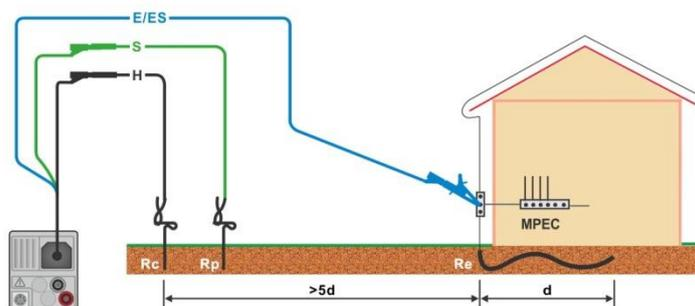
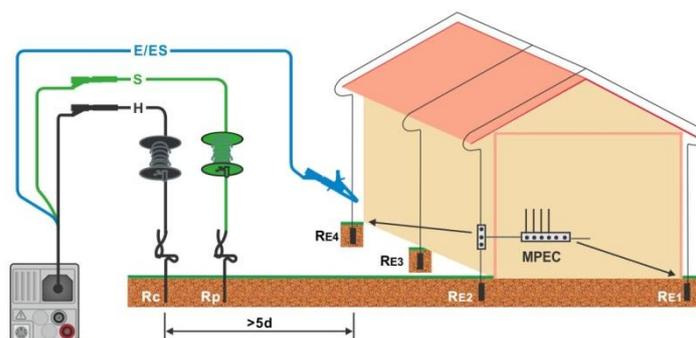

Figure 7.60: Resistance to earth, measurement of main installation earthing
Figure 7.61: Resistance to earth, measurement of a lighting protection system
- › Connect test leads to the object under test, see **Figure 7.60** and **Figure 7.61**.